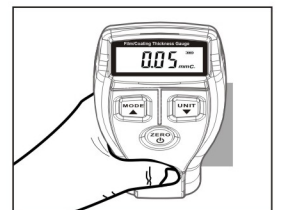
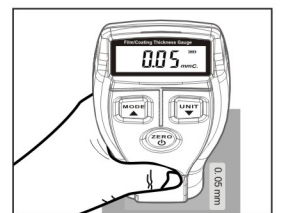

Figure 4
Figure 5
- d. Remove the probe from the surface. The LCD displays a value about 0.05mm. Carry out the second calibration, put the 0.05mm calibration block on the iron substrate. Then lightly press the probe onto the ferrous substrate where the calibration film locates. Beeping twice indicates that calibration of the second point finishes. ( Figure 4, figure 5)